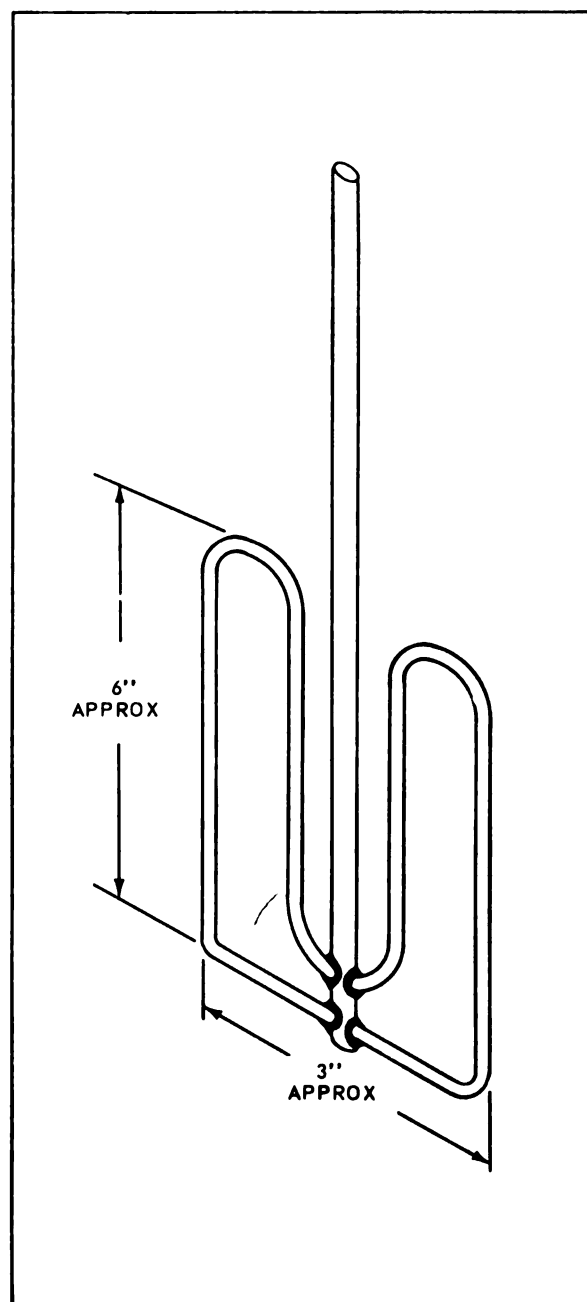

Figure 10-2. Mixing Paddle for Potting Compound
c. Clamp base material container securely to drill press geared to 50 PRM minimum to 90 RPM maximum. Insert a mixing paddle fashioned from a drill rod and wire. (See figure 10-2.)